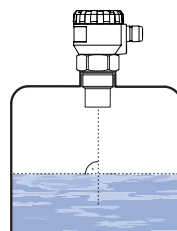

Fig. 1: Recommended installation in the tank
- Install the level meter in the **vertical position** into the upper lid of the tank or reservoir using a welding flange, a fastening nut or a flange so that the level meter axis can be perpendicular to the surface level of the measured liquid (Fig. 1).